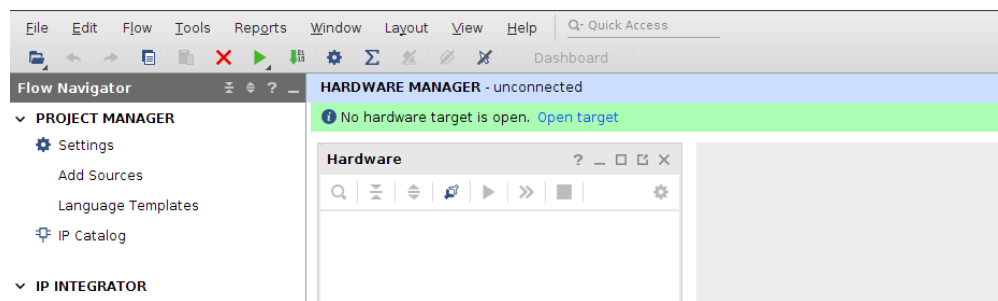

Figure 7: Open Hardware Target
8. With the Hardware Manager open in Vivado and your DSDB connected to the Elvis III and the computer as well as powered on, click Open Target along the top banner that alerts you that no hardware target is open, and then click Auto Connect (i.e., Figure 7). This will automatically search the system for any powered-on devices that can interface with Vivado and connect to them for easy programming.